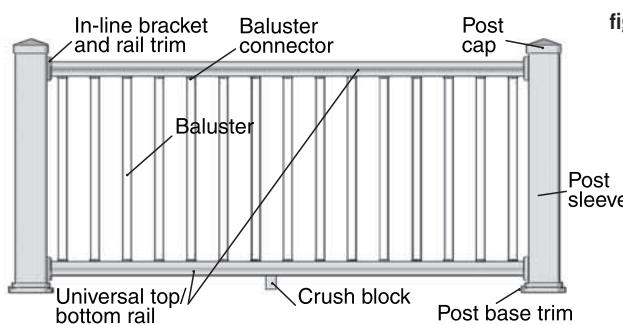

fig. 1
Step 5: Trim 4x4 post sleeves to length. Post sleeves should be a minimum of 1-1/2" longer than the railing height (fig. 1). Example: For a 36" high railing, trim post sleeve to a minimum of 37-1/2", can be left longer if desired. Slide a trimmed post sleeve over each 4x4 railing post. Post sleeve should slide easily over the post. DO NOT FORCE post sleeve onto post. Twisted or crooked 4x4s should be replaced. Slide a post base trim over each post sleeve for a finished look.